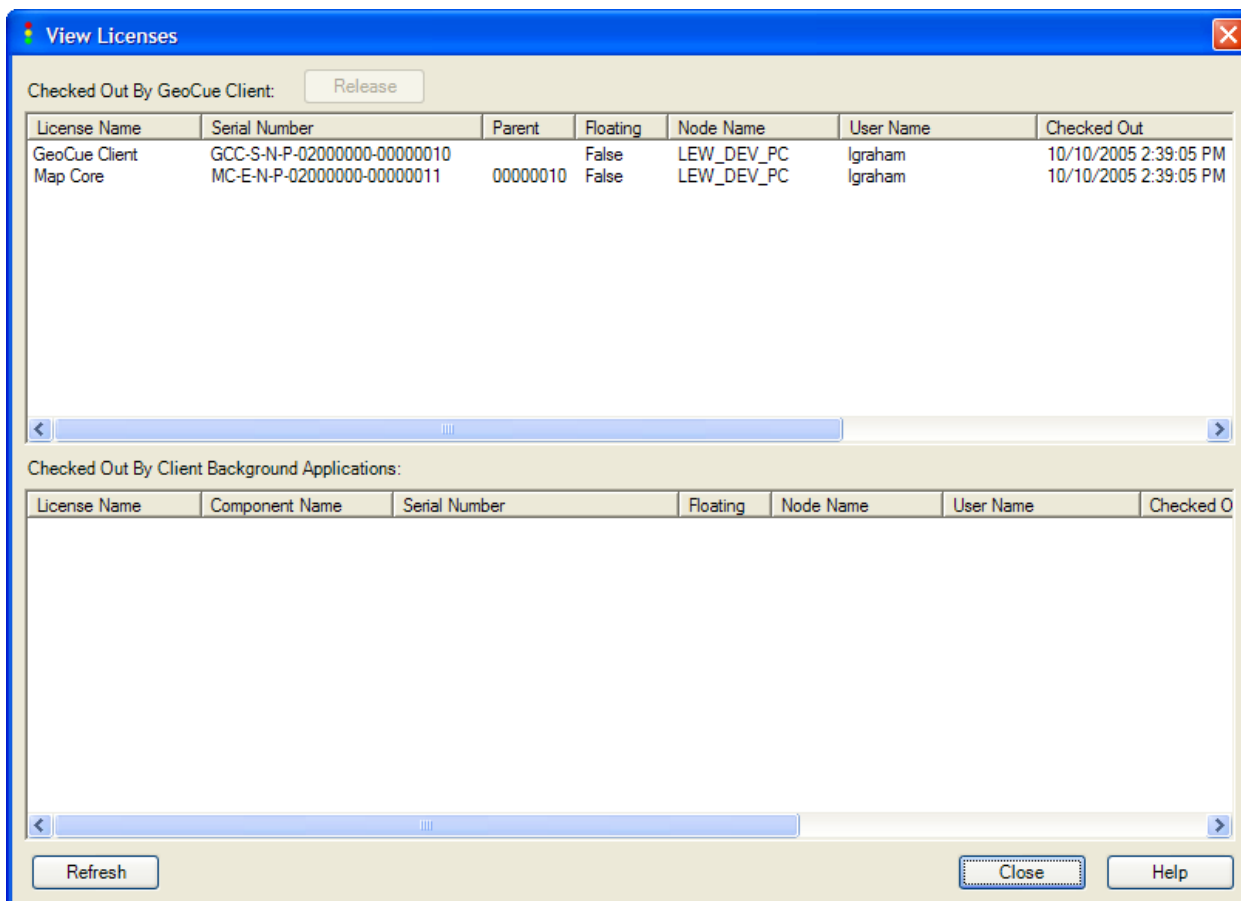

Figure 4-1 License Viewer
GeoCue Server includes a License Manager that manages licensing for your GeoCue constellation. You can view the status of GeoCue licenses by navigating from the top-level GeoCue Client menu: **Setup ► Administration ► View Licenses ...** This will invoke the dialog of Figure 4-1.
- Map Core – A set of mapping utilities that include technology that we license from ESRI. When you purchase a copy of GeoCue Client, a license of Map Core is included. You can look at a Map Core license to see if it was bundled with a different software item. In the dialog of Figure 4-1 License Viewer, notice that the “Parent” column for Map Core lists the GeoCue Client serial number.